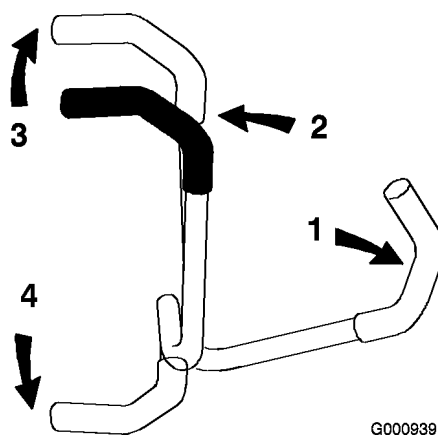

Figure 18
1. Move the motion control levers (Figure 18) out to the neutral lock position.
3. To go forward, slowly push the motion control levers forward (Figure 18).
To go straight, apply equal pressure to both motion control levers (Figure 18).
To turn, move the motion control lever toward neutral in the direction you want to turn (Figure 18).
2. To go backward, slowly pull the motion control levers rearward (Figure 18).
To turn, release pressure on the motion control lever toward the direction you want to turn (Figure 18).